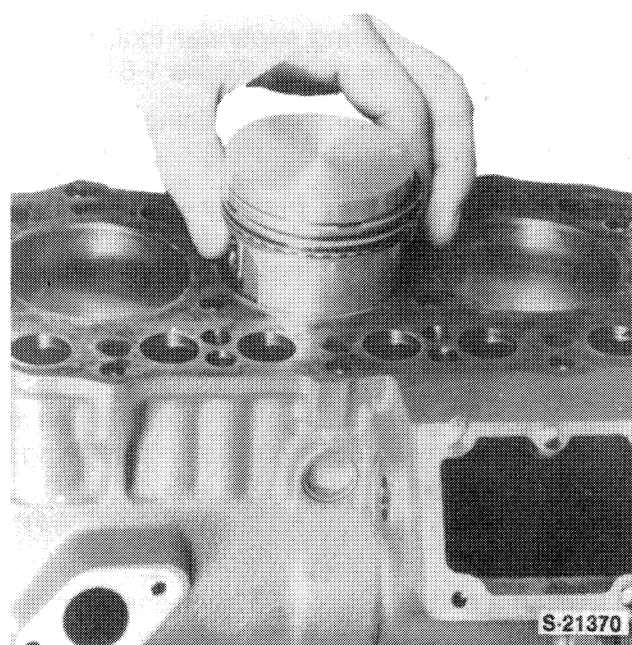

FIGURE 1-80
5. If necessary, remove any ridge from the top of the cylinder bores with a suitable size ridge reamer. Then push the piston and rod assemblies out the top of the cylinder block, Figure 1-80.